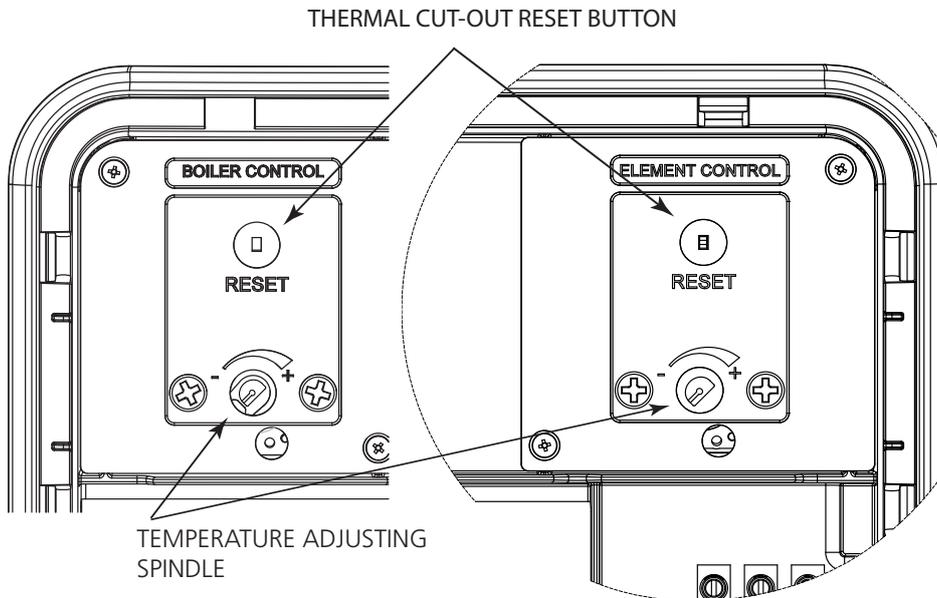

Figure 14: Thermostat adjustment
- ▶ The immersion heater thermostat is factory set at 60°C. Should this require adjustment see Fig 14 (page 20) for details of how to adjust the temperature setting. Each immersion heater has its own individual thermostatic control. The thermostat incorporates a thermal cut-out that will switch off the immersion heater in the event of a thermostat failure. The thermal cut-out reset button position is also shown on Fig 14.
- ▶ The immersion heater and indirect control thermostats are factory set at 60°C. Should this require adjustment see Fig 14 for details of how to adjust the temperature setting. The immersion heater and indirect controls each has its own individual thermostatic control. The thermostats incorporate a thermal cut-out that will switch off in the event of a thermostat failure. The thermal cut-out reset button position is also shown on Fig 14.
- ▶ If necessary the temperature can be adjusted by inserting a flat bladed screwdriver in the adjustment spindle on front of the immersion heater (ELEMENT) control thermostat and rotating (see Fig. 14 page, 20 for details of how to adjust). The adjustment represents a temperature range of 10°C to 70°C.
- ▶ If necessary the temperature can be adjusted by inserting a flat bladed screwdriver in the adjustment spindle on front of the indirect (BOILER) thermostat and rotating (see Fig. 14, page 20 for details of how to adjust). The adjustment represents a temperature range of 10°C to 70°C.
- ▶ Temperature adjustment is made by rotating the adjustment knob on the top of the thermostat. The adjustment represents a temperature range of 10°C to 70°C (see page 20, fig 14 for method of adjustment).